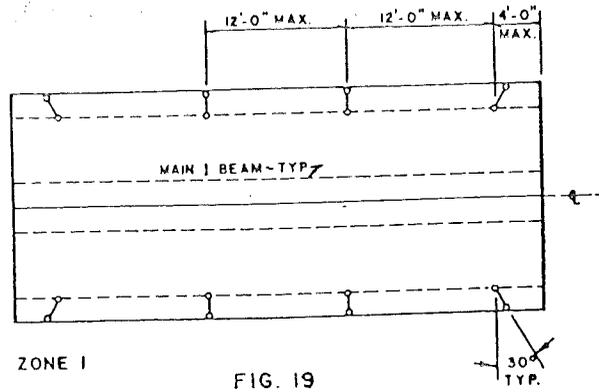
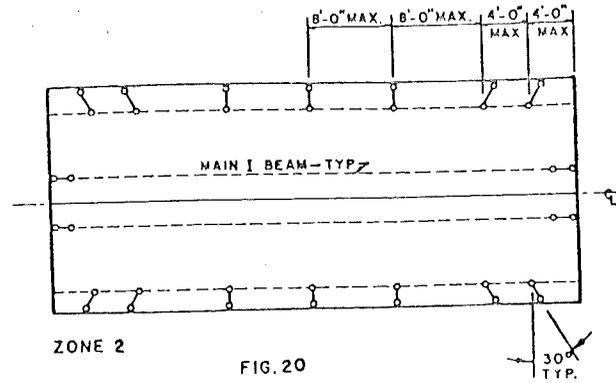

FIG. 19
FIG. 20
All sectional homes should be securely anchored to resist the over-turning and lifting effect of high winds. Be certain that the home is level before proceeding since jacking an anchored home may cause structural damage. This manufactured home was designed for the wind conditions specified on the data plate located at the electrical panel. Homes designed for Zone I are equipped with tie-down attachment provisions as shown in fig. 19 and fig. 20 for Zone II. Since it is important to use materials of proper design and quality, the following specifications should be considered minimum requirements.
1. Position and install the ground anchors so that the final strap angles are within the limits shown in figs. 19, 20 and 21.
Zone II homes are equipped with tie-down attachments on the main I beam in the same manner as Zone I. See fig. 20 for the spacing of ground anchors and tie-downs.